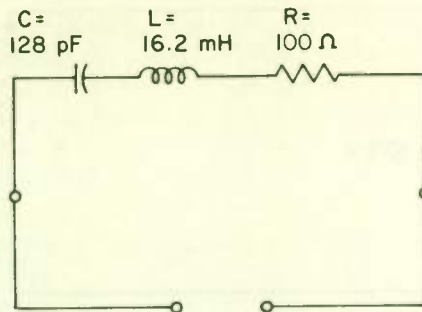

Fig. 37
- (1) make L larger and C smaller.
- (2) make C larger and L smaller.
- (3) make C or L or both larger.
- (4) make C or L or both smaller.
13. What is the resonant frequency of the circuit of Fig. 37?
- (1) 7690 Hz
- (2) 110.6 kHz
- (3) 3.58 MHz
- (4) 76.7 MHz
- (5) None of the above
14. What is the impedance at resonance of the circuit of Fig. 37?